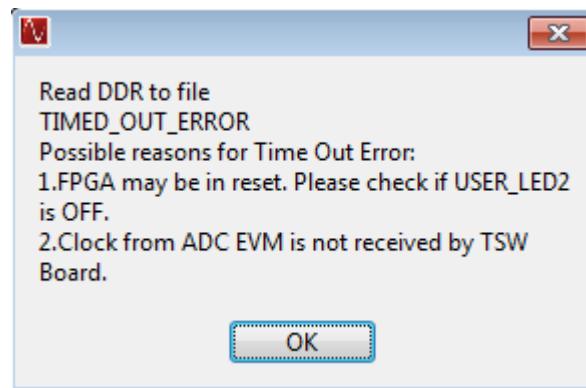

Figure 82. Read DDR Error for No Capture
- **No Capture in HSDC Pro:** It is possible that once the GUIs and EVMs are configured for capture, and the capture button in HSDC Pro is pressed, that nothing seems to happen and eventually the GUI will timeout and a pop-up an error appears as seen in Figure 82. Reasons for this can include the following: